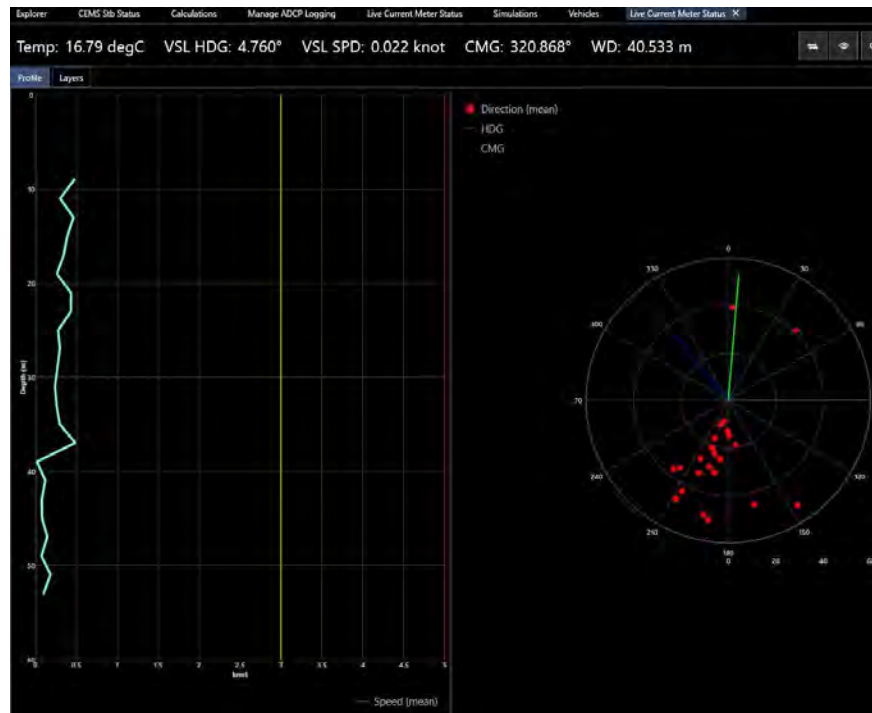

FIGURE 18-28 ADCP PROFILE WINDOW - PROFILES TAB
- **Profiles Tab:** On this view, the current magnitude vs depth is shown in the chart on the left and current direction on the right (see Figure 18-28)